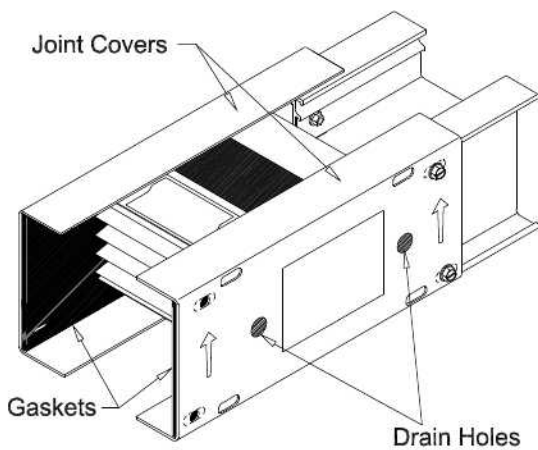

Figure 15. Water Resistant/Outdoor Joint
9.2.2.1 Joint Drain Holes - Each joint area of 3R Type Outdoor busway is fitted with twelve (12) drain holes in the joint area, two (2) drain holes in each joint cover and eight (8) drain holes on the end ramps of the housings. These joint drain holes are sealed with plastic plugs from the factory. Do not remove any drain hole plugs until the busway is installed. Do not remove any drain hole plugs except as described below. (Figures 15 and 16)